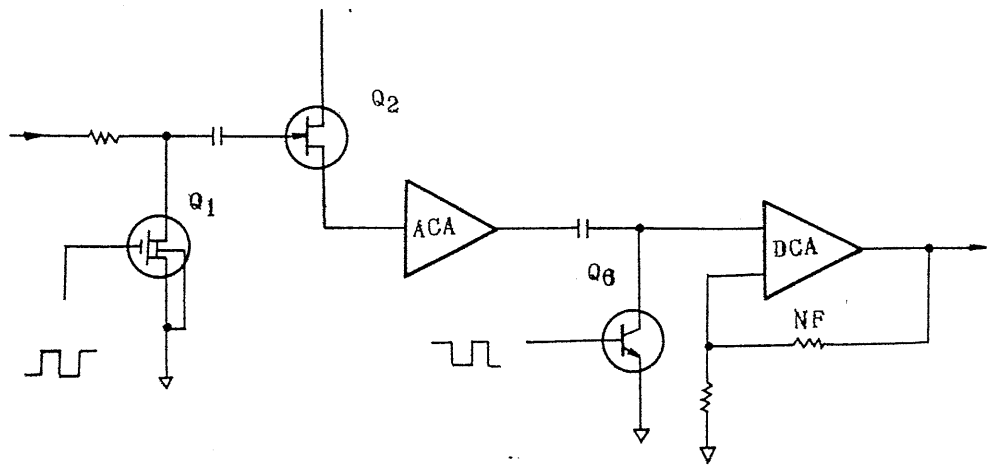

Fig. 4-2
A(1) represents the entire amplifier shown in Fig. 4-2; A(2), the amplifier using Q_{16} .